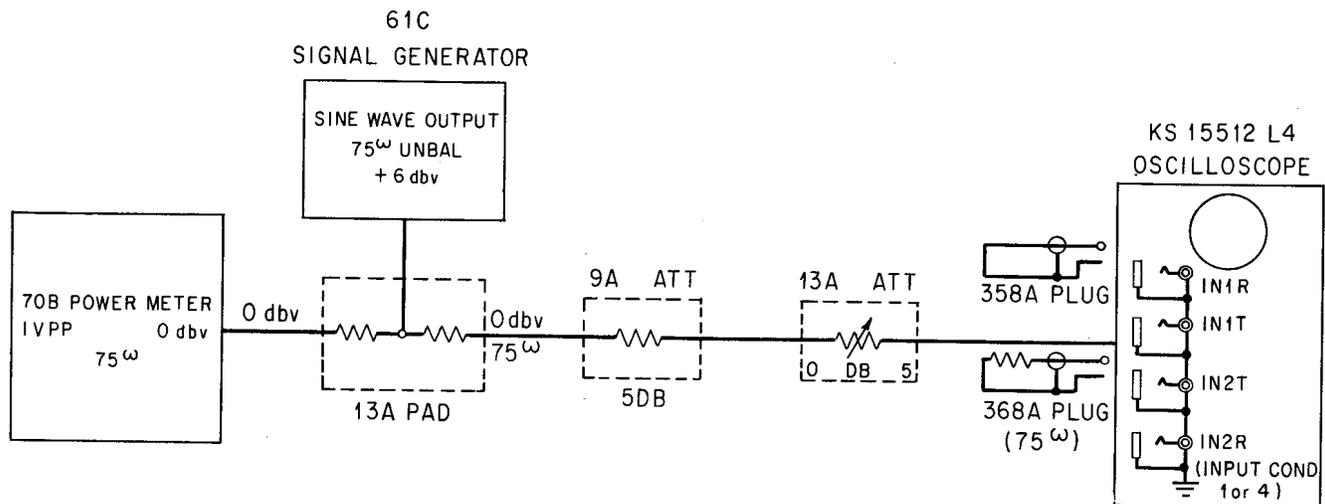

Fig. 5 – Vertical Amplifier Alignment
- (a) Use the equipment arrangement illustrated in Fig. 5.
9.05 Rearrange the test equipment to conform with the arrangement illustrated in Fig. 5. Readjust the signal generator for a 1V, PP, 100 kc sine wave signal indicated as 0 dbv on the power meter. Set the V GAIN control maximum clockwise and vary the 13A Attenuator for a 2-inch deflection (40 division on the graph paper) on the scope. (If necessary vary the V GAIN control also.) Without readjustment of the 13A Attenuator and the V GAIN control, maintain the 0 dbv power meter reference output to measure the gain frequency response of the vertical amplifier over the range from 100 kc to 10 mc which should fall within the limits specified as follows: